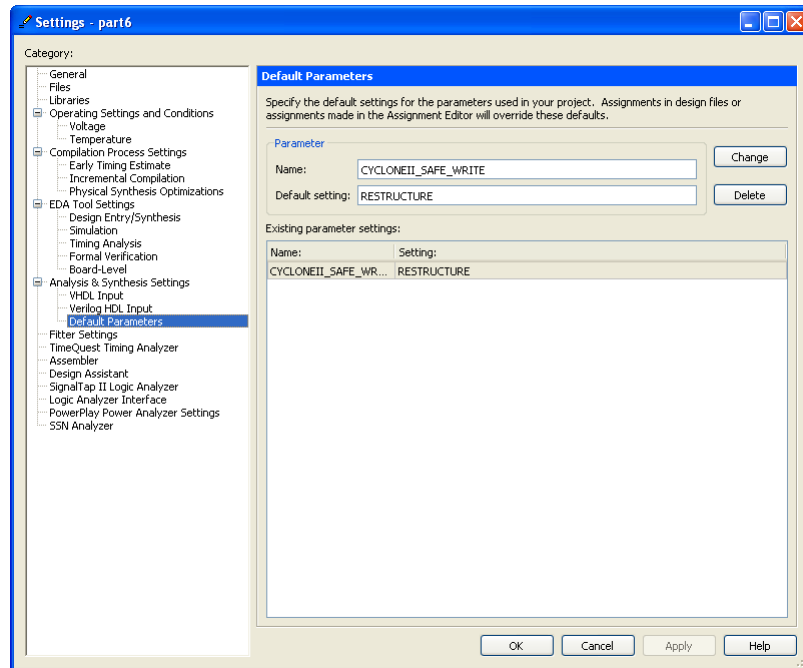

Figure 7: Setting the *CYCLONEII_SAFE_WRITE* parameter.
3. Before you can use the In-System Memory Content Editor tool, one additional setting has to be made. In the Quartus II software select **Assignments > Settings** to open the window in Figure 7, and then open the item called **Default Parameters** under **Analysis and Synthesis Settings**. As shown in the figure, type the parameter name **CYCLONEII_SAFE_WRITE** and assign the value **RESTRICTURE**. This parameter allows the Quartus II synthesis tools to modify the single-port RAM as needed to allow reading and writing of the memory by the In-System Memory Content Editor tool. Click **OK** to exit from the Settings window.